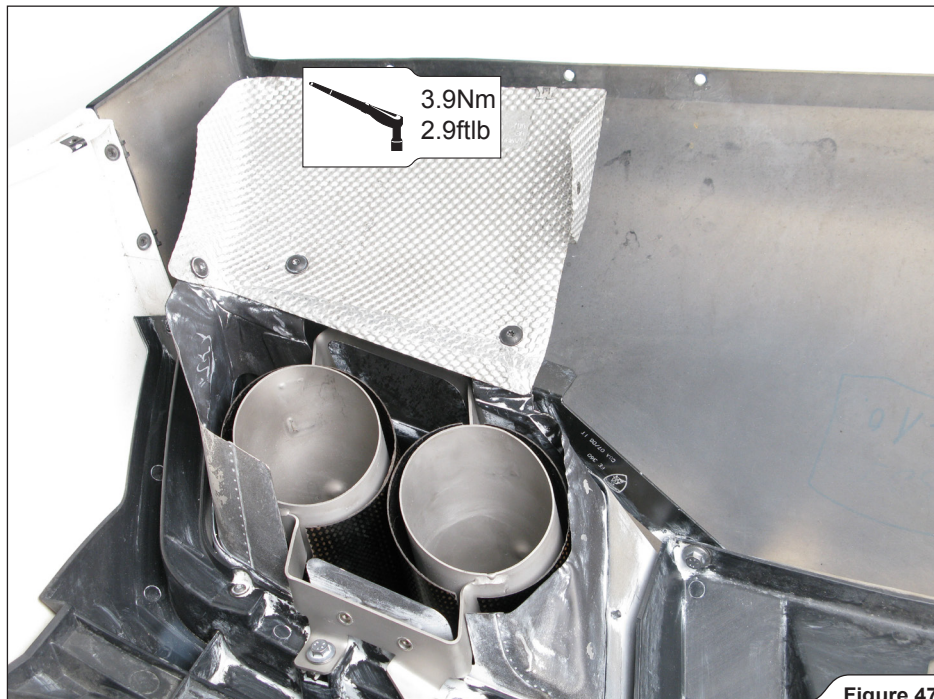

Figure 47
10. Install the original tail pipe heat protection on both sides of the bumper trim panel, using original bolts (Figure 47).